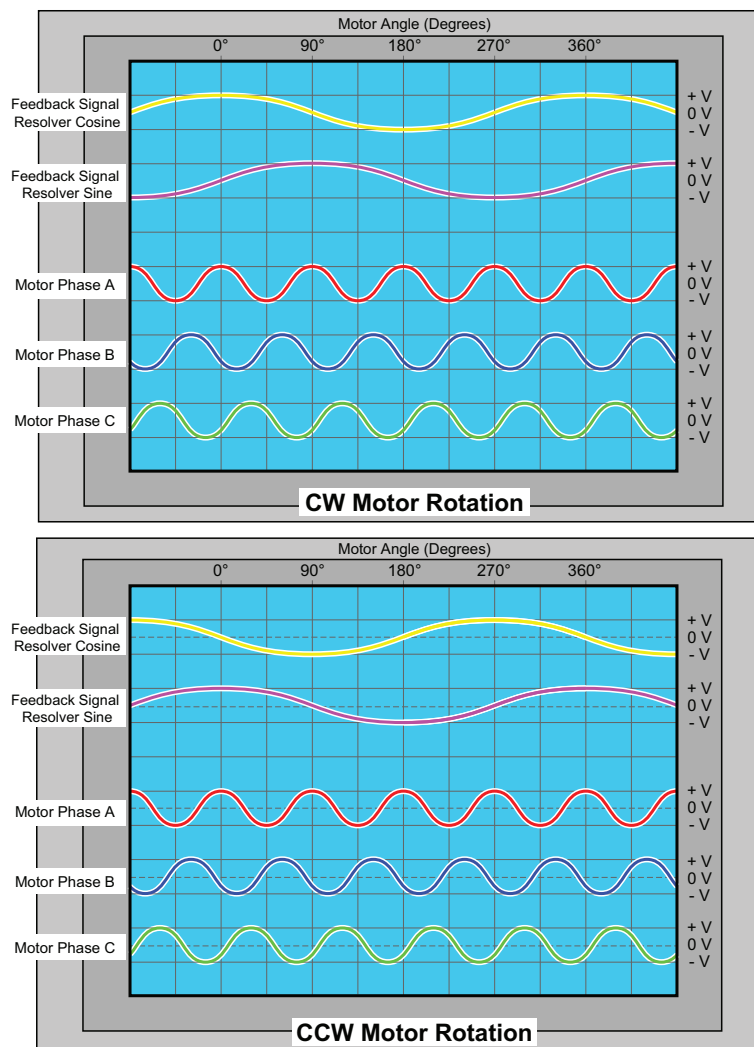

Figure 1-8: Resolver and Motor Phasing
An optional resolver can be used as the feedback device for the motor. The resolver is aligned at the factory such that the null position of the resolver corresponds to a motor phase angle of zero degrees (refer to Figure 1-8). The null position of the resolver is considered to be the point at which the sine feedback signal is resting at a zero level and the cosine signal is resting at its positive peak.
**WARNING:** The sine and cosine signals shown in Figure 1-8 represent demodulated waveforms. In actual operation, these signals are transmitted on a high frequency carrier (e. g., 5 KHz, 10 KHz).